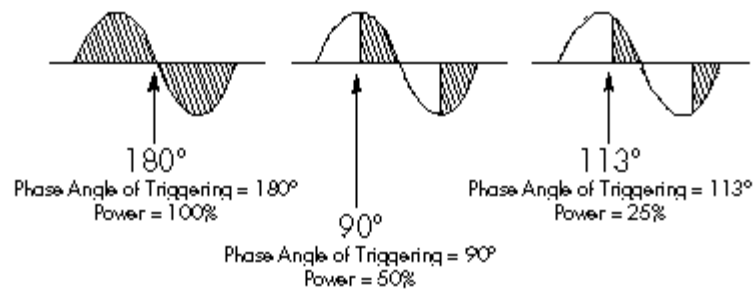
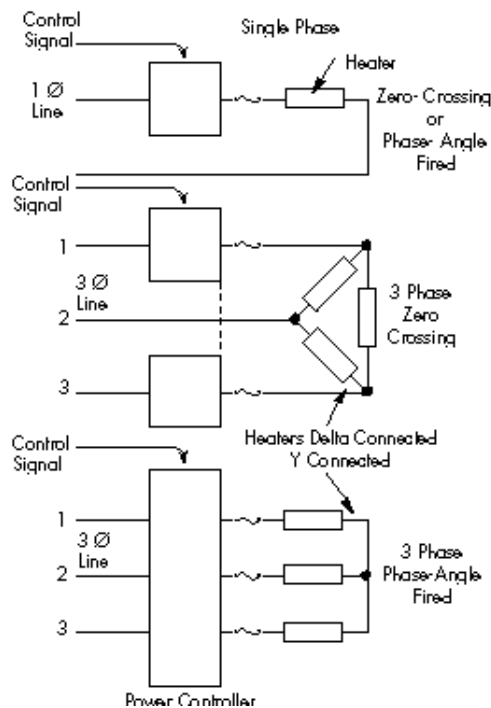

Figure 10.
Figure 12.
2. Phase angle: This method of modulating permits applying a portion of an ac sine wave to the load. The effect is similar to light dimmer function. See **Figure 10**.
are turned on by gate pulses. They have unlimited life and require no maintenance. SCR controllers are available for switching single- or three-phase loads in zero crossing/burst firing (**Figure 12**) or phase-angle modes (**Figure 10**)
Power controls are connected to the control signal and load, per **Figure 12**.